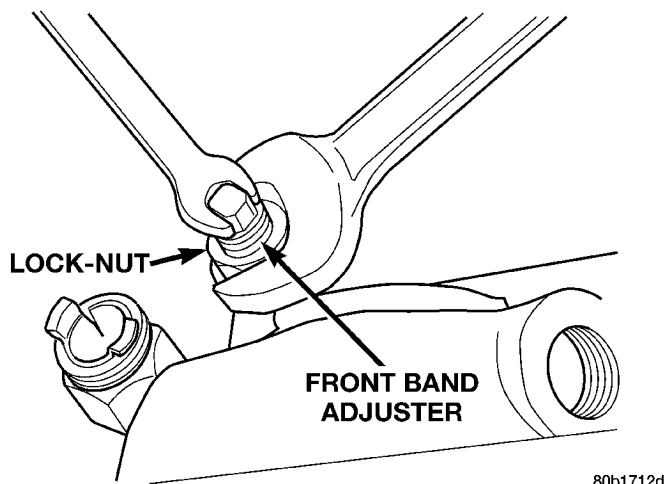

Fig. 254 Front Band Adjustment Screw Location
- (1) Raise vehicle.
- (2) Loosen band adjusting screw locknut (Fig. 254). Then back locknut off 3-5 turns. Be sure adjusting screw turns freely in case. Apply lubricant to screw threads if necessary.
- (3) Tighten band adjusting screw to 8 N·m (72 in. lbs.) torque with Inch Pound Torque Wrench C-3380-A, a 3-in. extension and 5/16 socket.